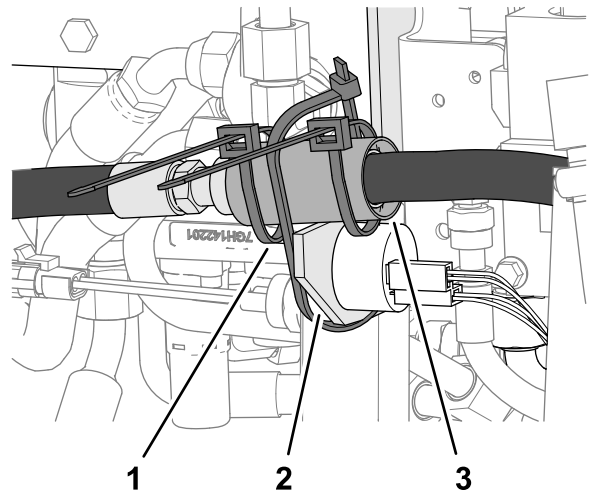

Figure 27
5. Wrap the straight fittings of the 2 hoses with the hose protector, and secure the protector to the fittings with 2 cable ties (Figure 27).
6. Secure the protector and hoses to the valve bracket as shown in Figure 27.